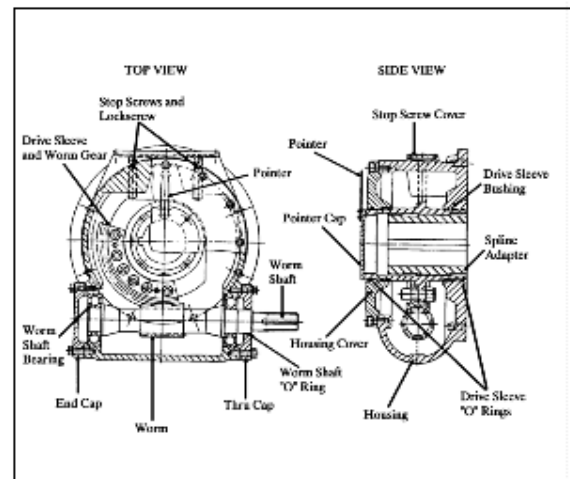

Figure 2-53 HBC-4 through 10 Operator
2. Refer to Figure 2-53. HBC-4 through HBC-10 operators have adjustable stop screws mounted in the HBC housing for use in positive stopping.
4. Refer to Figure 2-53. HBC-4 through HBC-10 have STOP SCREWS installed into the housing to stop rotation. Otherwise its operation is identical to that of the HBC-0 through HBC-3 operators.